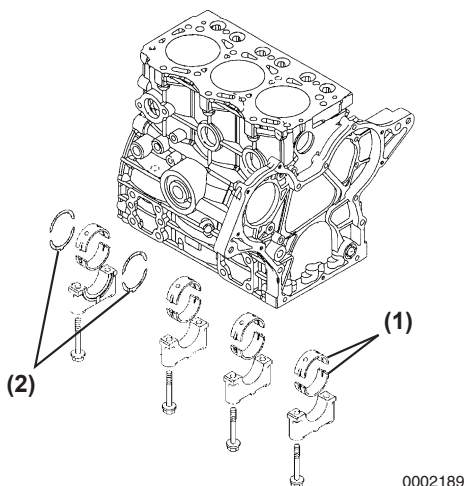

Figure 4-2-59
12. Remove the bearing inserts (Figure 4-2-59, (1)) and thrust bearings (Figure 4-2-59, (2)).